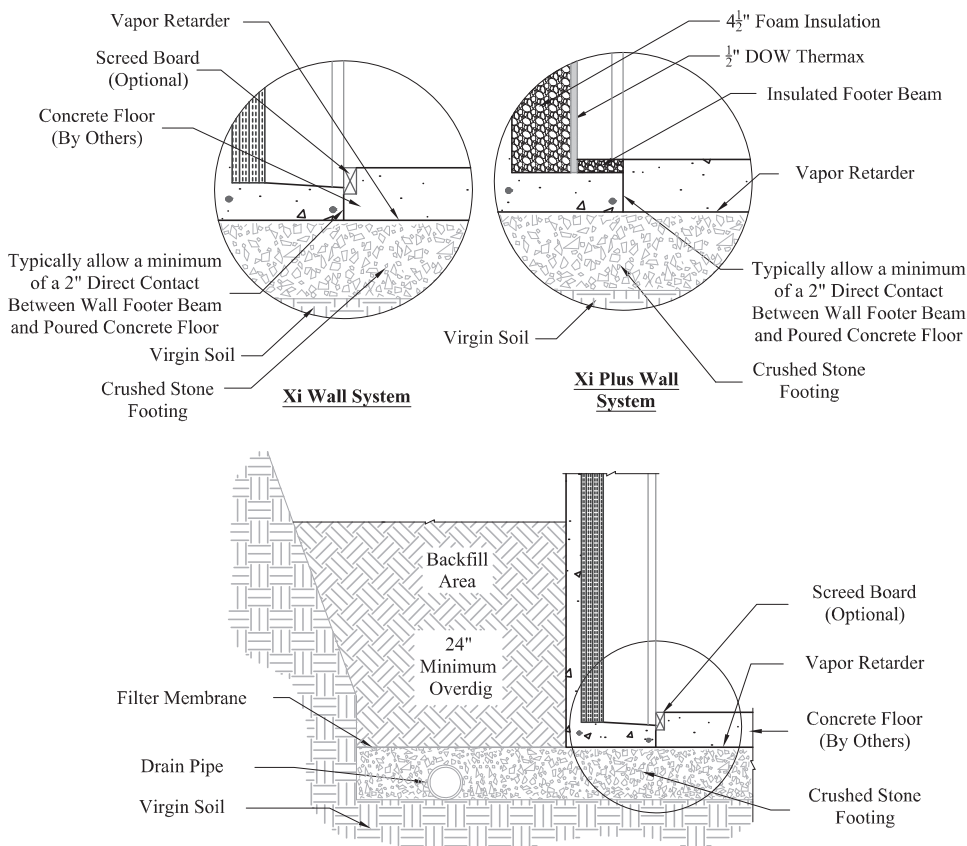

Figure 11
- For the Xi Wall System, fasten a piece of lath at the desired height of the concrete floor to form a screed board (see Figure 11), or omit the screed board and allow concrete floor pour to flow between the stud cavities on top of the Superior Walls footer beam.
- For the Xi Plus Wall System, pour a 4" slab, using the upper edge of the insulated footer beam as a guide (see Figure 11).
- Typically allow a minimum of a 2" direct contact between wall footer beam and poured concrete floor. (See Figure 11 below.)